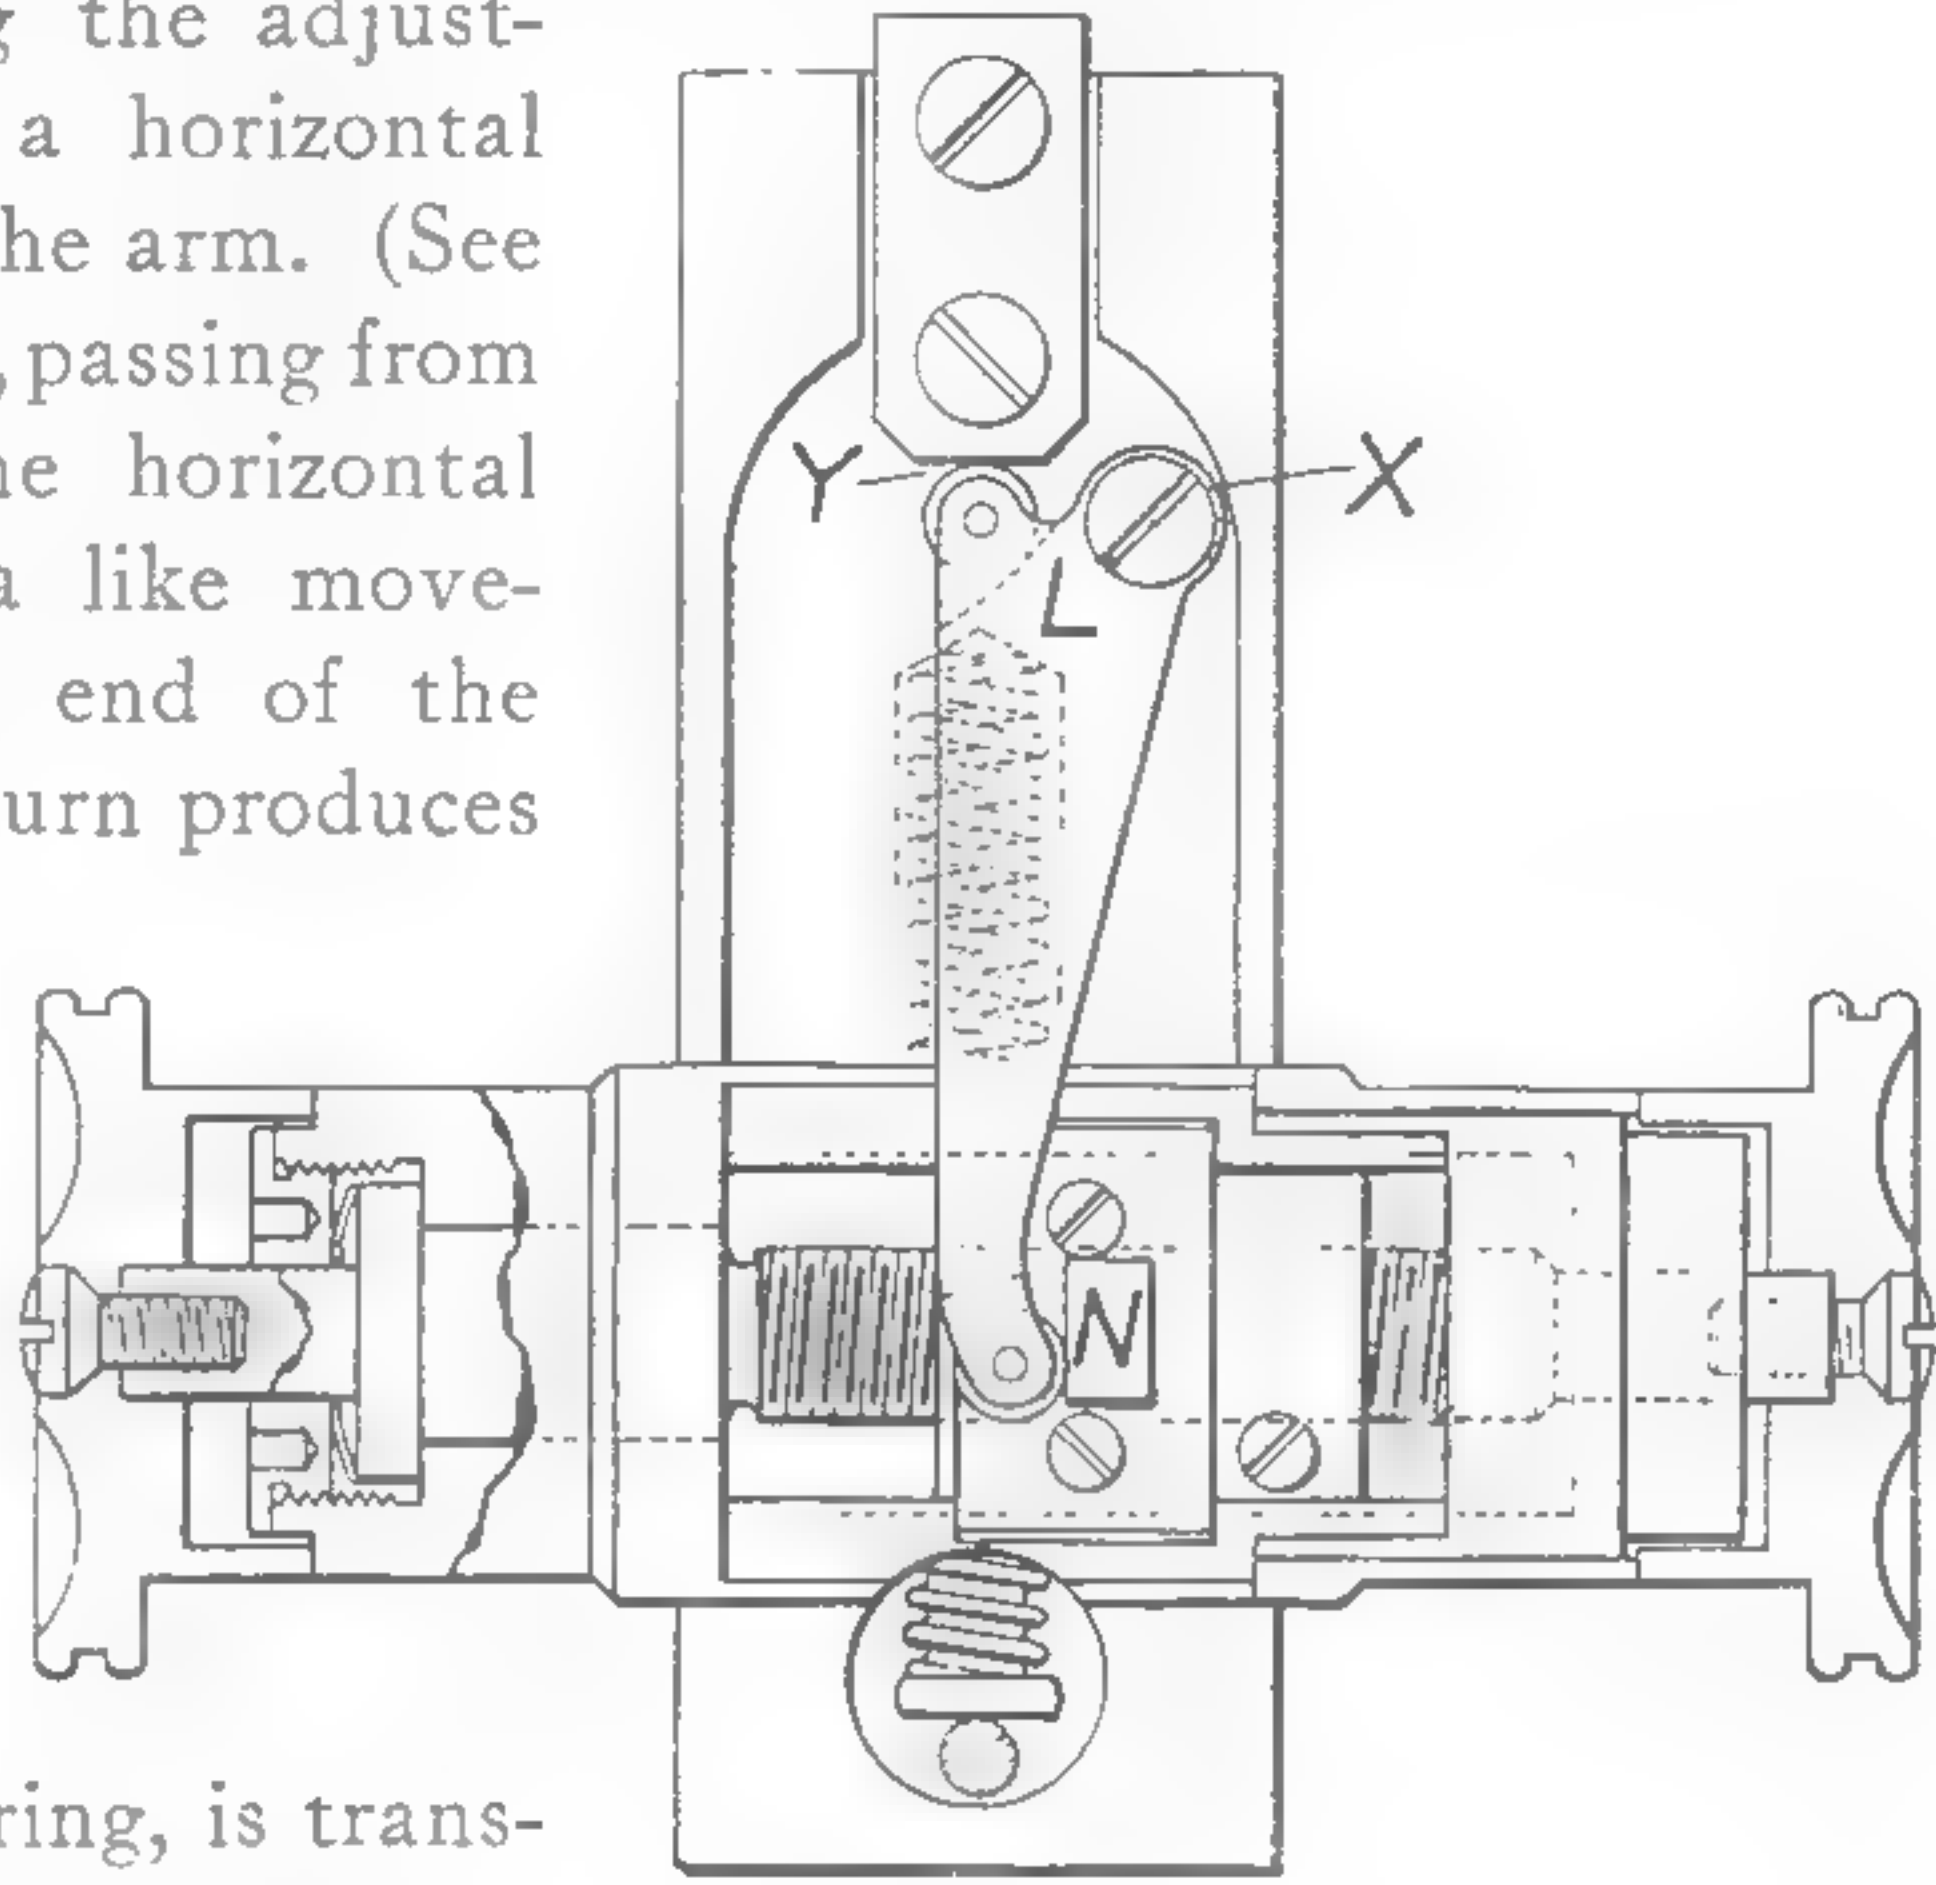

Fig. 6
**Fine Adjustment B** is represented in Nos. 5, 10, 15, 20, 22, 25 and 60. This adjustment is growing in favor, because of the convenience of having the adjustment buttons on a horizontal axis at the side of the arm. (See Fig. 6.) The nut, N, passing from side to side on the horizontal thread, produces a like movement of the lower end of the lever, L, which in turn produces a *direct up-and-down movement* at Y, the lever being pivoted at X. *There is no lateral thrust.* The downward thrust, caused by gravity and the spring, is transmitted directly through the lever to the nut on the thread, and from the thread to the hands. This